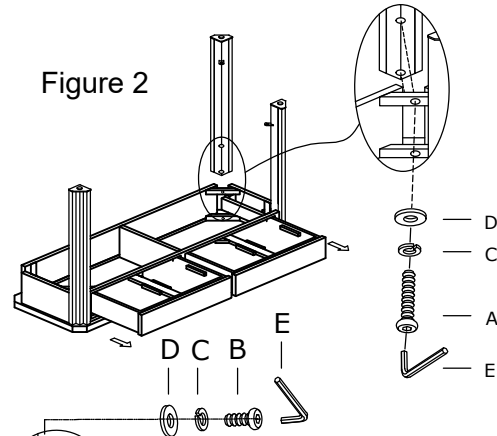

Figure 3
4. Attach the shelf to the leg using Bolt (B), Lock Washer (C) and Flat Washer (D) and tighten with the Allen Wrench (E). As Shown in Figure 3.